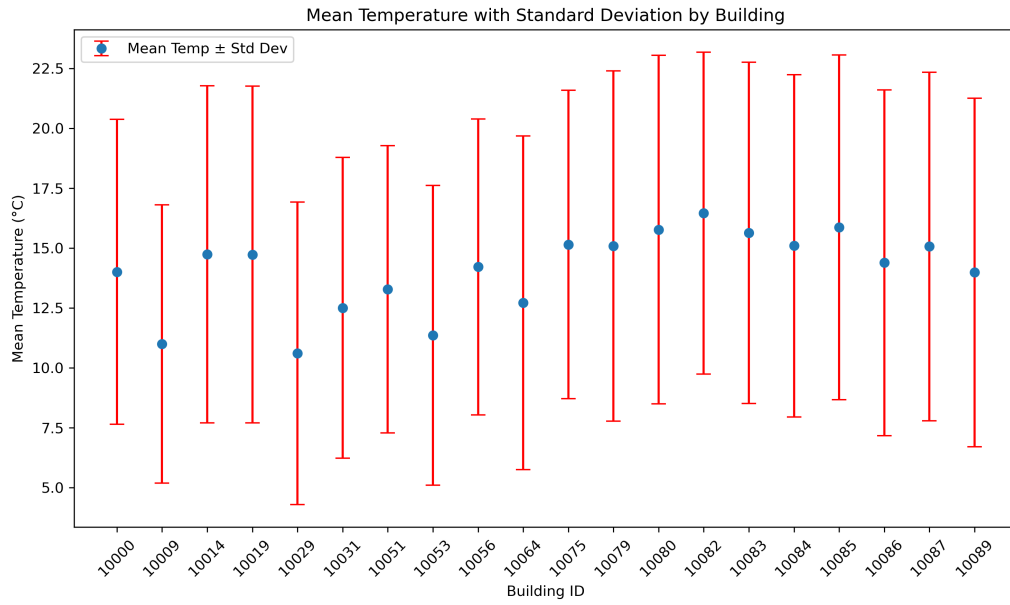

Figure 2: Temperature distribution across the 20 floor plans.
- The **mean temperature** and a corresponding **standard deviation** across the floor plan. This is shown in Figure 2.